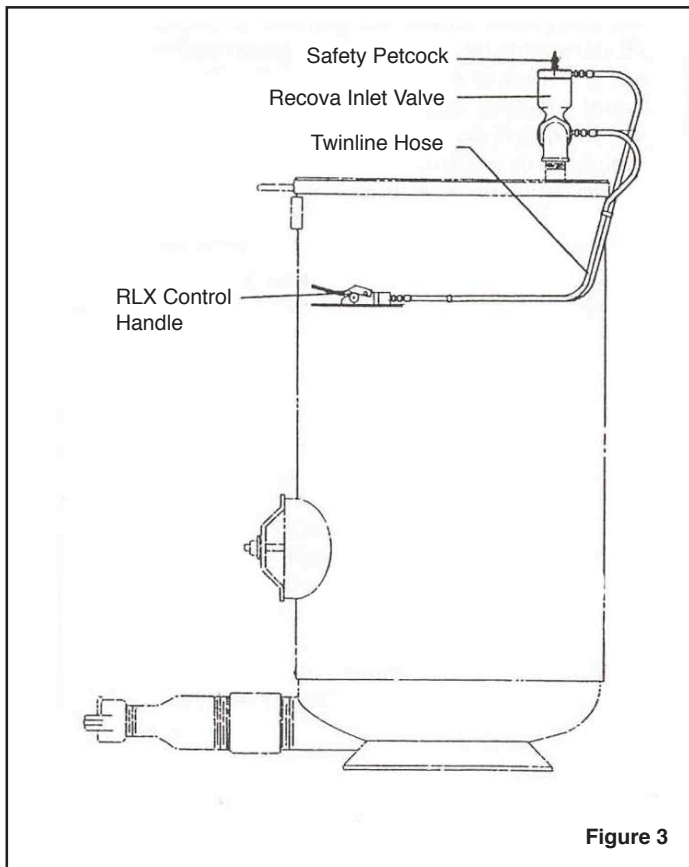

Figure 3
5.1 Recova-Lok II (Figure 3). To install, unscrew the existing manual valve and replace it with the Recova inlet valve. Connect the Recova Lok II to the inlet valve by means of the twinline hose provided. Either leg of the hose can go to either fitting on the Recova-Lok II. The safety petcock on top of the inlet valve must be closed; otherwise the system won't work. To open the inlet valve, press in the safety button on the side of the Recova-Lok II and depress the handle. To close the inlet valve, release the handle.